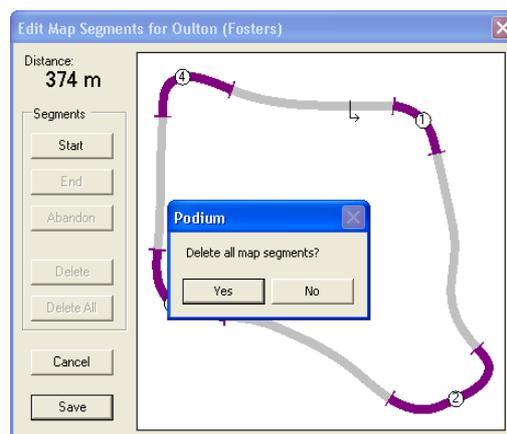

Figure 29 - Edit Map Segments Dialog (Delete All Segments)
3. Click **Delete All**. A message box is displayed which requests confirmation of the delete operation (see Figure 29).